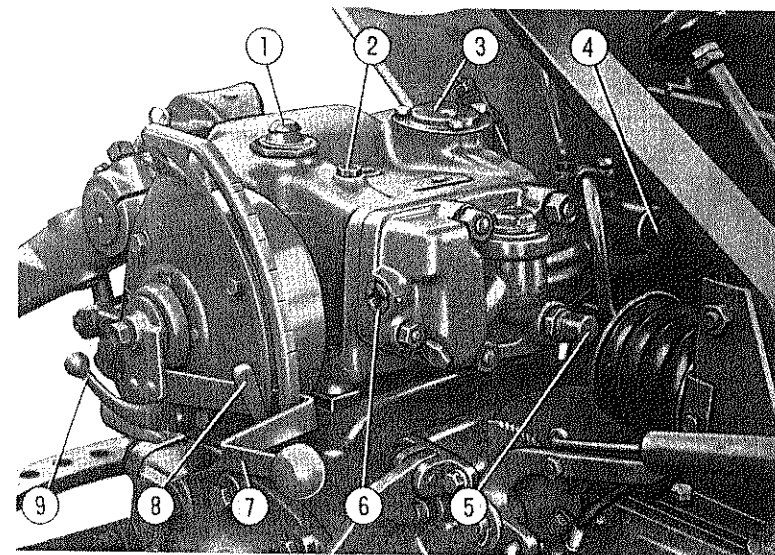

Fig. 20. - Hydraulic lifter.
These two systems cannot operate simultaneously. To operate the hydraulic system on « position control », move DOWN the selector lever (9, fig. 20) and to operate on « draft control » move the selector lever UP. The selector lever movements must be done with the lifter links all the way up.
**Control:** move lever (7, fig. 20) up to **lift** and down to **lower** the implement. Each position of lever provides a given height of implement. To ensure an equal distance for any and all implement lowerings, adjust the position of stop 8 (fig. 20) which limits the downward stroke of the lever.
**Control:** every position of control lever (7, fig. 20) produces a given pull to which corresponds a given work depth for each type of terrain. The pulling effort increases when the lever is moved down and, consequently, also the ploughing depth increases.
To ensure identical working depths, adjust the position of stop (8, fig. 20) limiting the downward stroke of the lever. If the max. allowable plough depth without wheel slip is established while ploughing the first furrow (by gradually pulling down the lever) the Operator can then be sure that no wheel slippage will take place at any of the subsequent furrows.